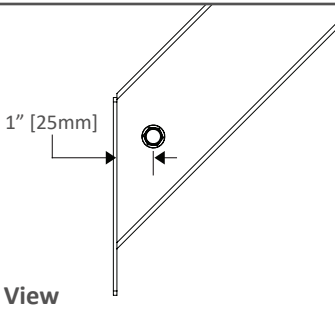

Fig. 42
6. Position the Lateral Bracing Assembly into the desired installation position set a 45° angle. As shown in Fig. 42.